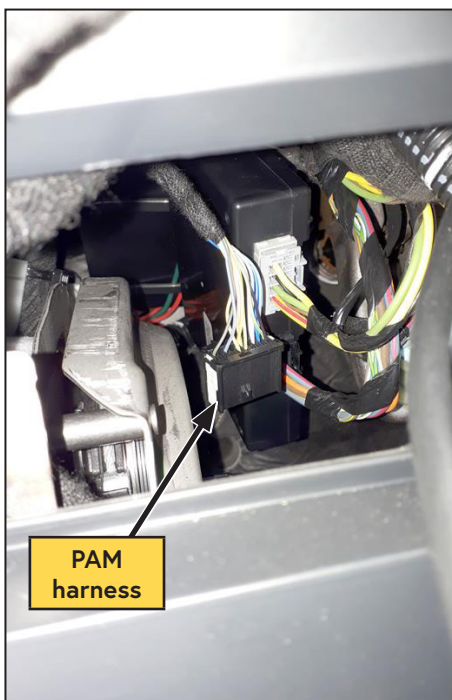

Figure 44 — Parking Assist Control Module (PAM)
- ☐ Locate the Parking Assist Control Module (PAM) (located on the driver side, under the dashboard and above the parking brake). The PAM harness will either be plugged into a blanking plug, or a PAM module (Figure 44).